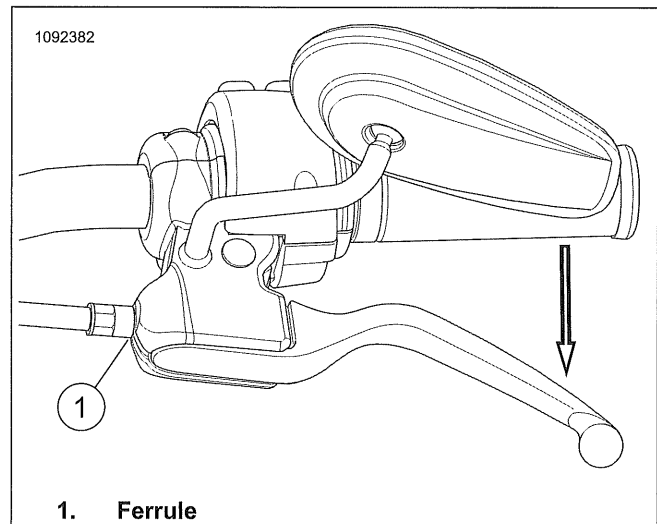

Figure 2-28. Clutch Lever
6. See Figure 2-28. Ensure clutch lever is in full open position and that ferrule (1) is correctly seated in housing.